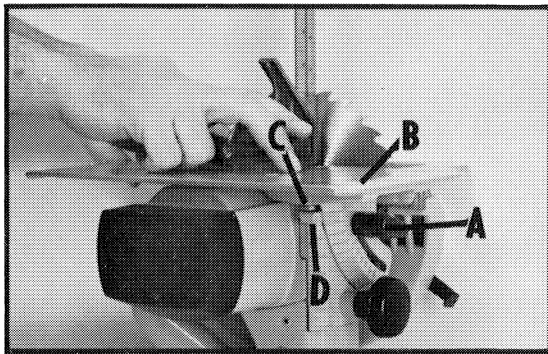

Fig. 7
3. Turn the saw over and make sure the handle rests on a rigid support. Loosen bevel adjusting knob (A) Fig. 7, and position the base (B) so the stop screw (C) contacts the stop (D).
4. Retract the blade guard and with a square, check to see if the blade is at 90 degrees to the base, as shown in Fig. 7. If the blade is not at 90 degrees to the base, turn the stop screw (C) in or out until you are certain the blade is at 90 degrees to the base when the stop screw (C) contacts the stop (D), Fig. 7.